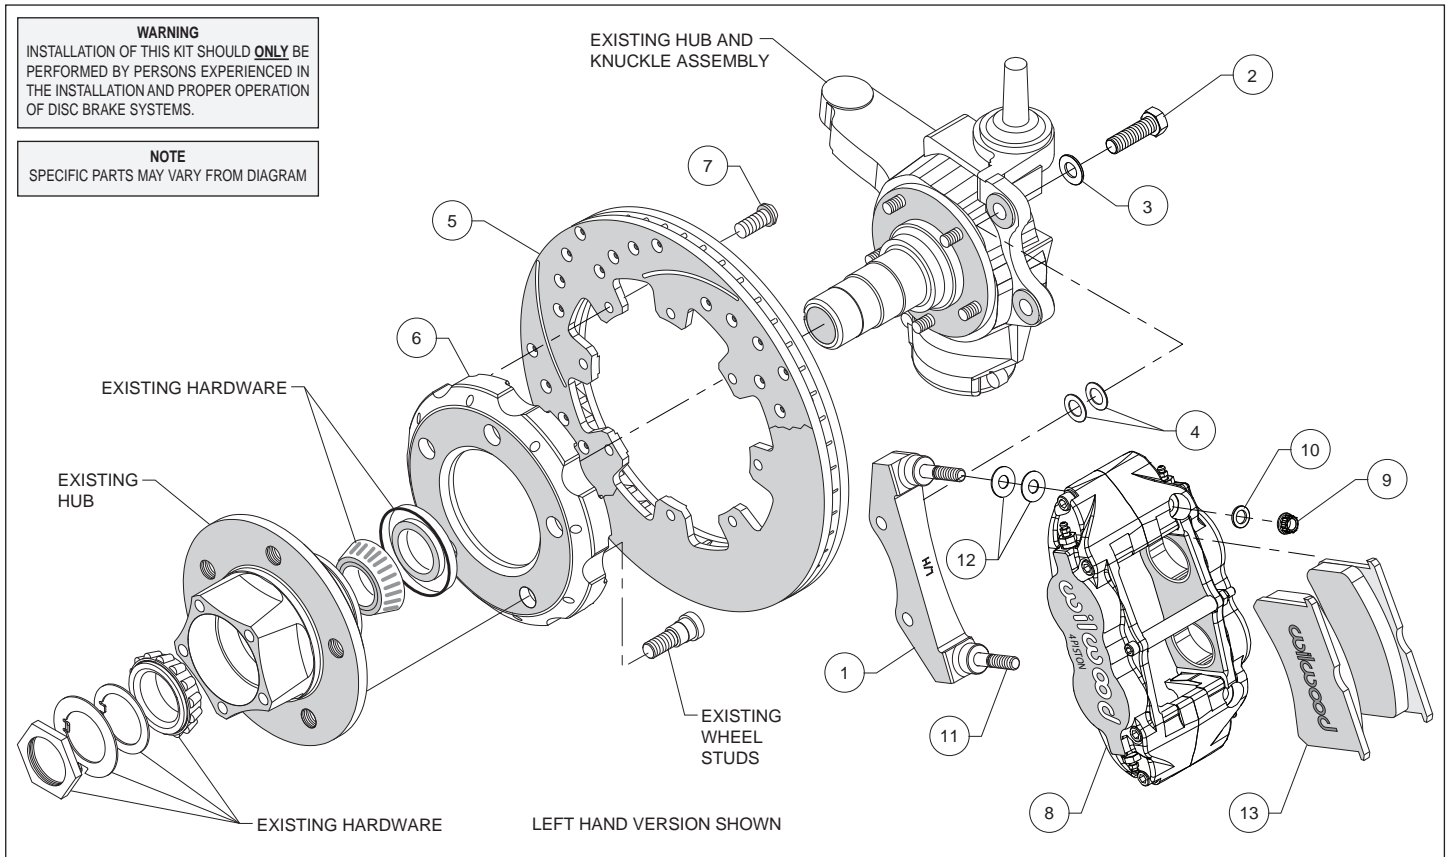

Figure 1. Typical Installation Configuration
Assembly Instructions (numbers in parenthesis refer to the parts list and Figure 1 on the preceding pages):
- The caliper mount bracket (1) should initially be installed with clean, dry threads on the mounting bolts. Orient the bracket as shown in Figure 1 and Photo 2 and install using bolts (2) and washers (3). Initially place two .032" thick shims (4) on each bolt between the bracket and upright, Figure 1. Temporarily tighten the mounting bolts. Brackets are labeled R/H and L/H, be sure to install the correct bracket on the applicable side, Photo 2. **NOTE:** The bracket must fit squarely against the mount bosses on the upright. Inspect for interference from casting irregularities, machining ridges, burrs, etc. Later, after the caliper alignment has been checked, the mount bolts will be secured using red *Loctite*[®] 271.
- Orient the hat (6) and the OEM hub as shown in Figure 1 and Photo 3. **NOTE:** The hat must fit flush against the axle hub or excessive rotor run out may result. Press fit the wheel studs (we recommend using new wheel studs) thru the holes in the hat and into the existing hub. **NOTE:** We recommend this procedure be performed by a qualified machinist.
- Orient the rotor (5) and the hat/hub assembly as shown in Figure 1 and Photo 4. Attach rotor to hat using bolts (7). Using an alternating sequence, apply red *Loctite*[®] 271 to the threads, and torque to 25 ft-lbs.
- Pack the small outer OEM bearing cone (we recommend using new bearings) with high temperature disc brake bearing grease and install into hub, as shown in Figure 1.. Slide the hat/rotor/hub assembly onto the spindle. Secure using OEM spindle washer, spindle nut, and nut lock, Photo 6. Adjust bearings per OEM specifications. Install a new cotter pin (not included).
- Lubricate the caliper mounting studs (11) with lightweight oil. Initially place two .035" thick shims (12) on each stud as shown in Figure 1 and Photo 7. Mount the caliper (8) onto the bracket (1) using lock nuts (9) and washers (10), Figure 1 and Photo 8. Temporarily tighten the lock nuts and view the rotor through the top opening of the caliper. The rotor should be centered in the caliper, Photo 9. If not, adjust by adding or subtracting shims (4) between the bracket and the upright. Always use the same